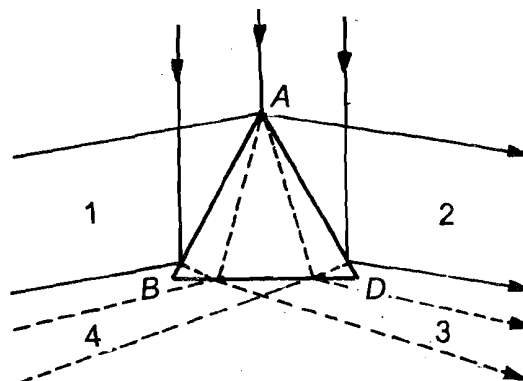

Fig.5.4: Determination of the angle of the prism
2. Now rotate the prism table so that edge A is placed symmetrically with respect to the collimator. In this setting, both the faces AB and AD will receive parallel rays from the collimator. Turn the telescope to locate the reflected image of the slit from the face AB of the prism (Fig.5.4).